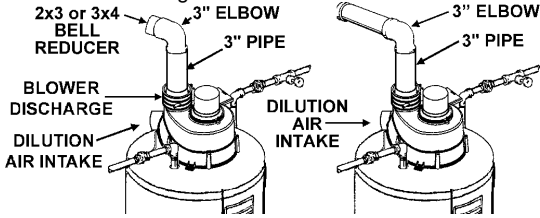

FIGURE 21.
3. Make sure there is no packing material in the discharge of the blower or the intake of the dilution air restrictor, see Figure 21.
Figure 21 shows the optimal placement of the 2" to 3" or 3" to 4" reducer; however, the vent can be reduced at any point in the vent system as long as the maximum vent length is not exceeded.
pipe is NOT ALLOWED. If 2" pipe is to be used, then a 2" to 3" bell reducer is recommended. Figure 21 shows the recommended location for the bell reducer. If the bell reducer is located at the rubber boot on the blower assembly, then a short section of 3" vent pipe needs to be installed in the rubber boot for proper connection of the 2" to 3" bell reducer. That length can be the minimum length required for the connection.
If 4" pipe is to be used, then a 3" to 4" bell reducer is recommended. Figure 21 shows the recommended location for the bell reducer. If the bell reducer is located at the rubber boot on the blower assembly, then a short section of 3" vent pipe needs to be installed in the rubber boot for proper connection of the 3" to 4" bell reducer. That length can be the minimum length required for the connection.